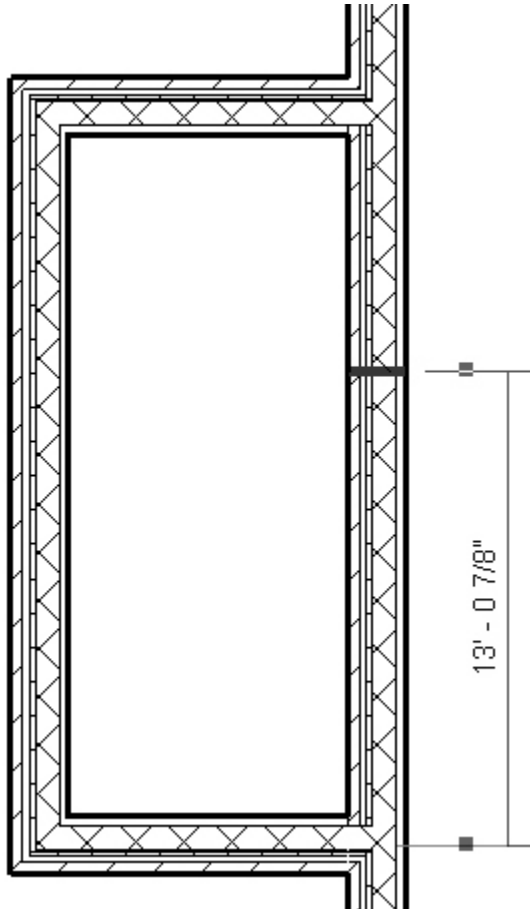

Figure 3-3.5 Split tool
18. Pick somewhere in the middle of the wall (Figure 3-3.5).